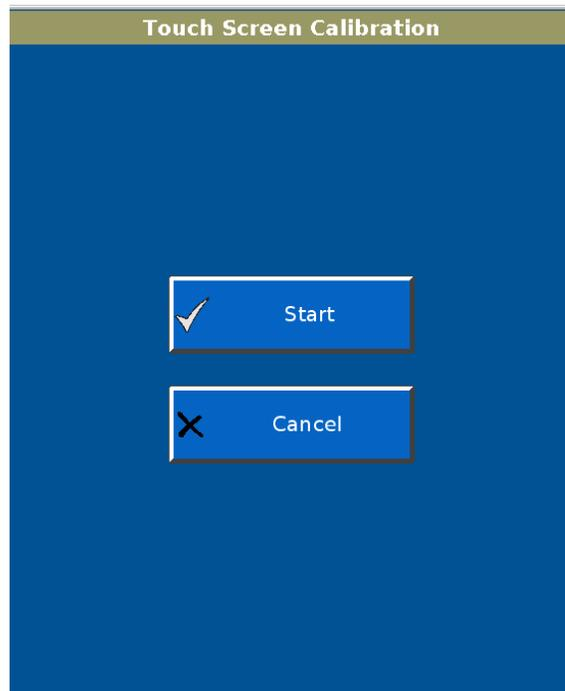

Figure E-13: Calibrate Touch Screen screen
1. From the **Diagnostics Menu**, select **Touch Screen Calibration**. The **Touch Screen Calibration** screen is displayed (Figure E-13).